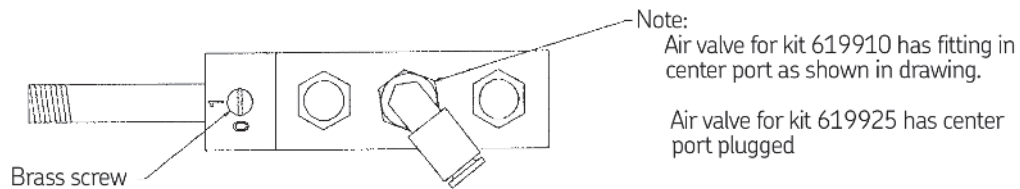

Fig. 1
1. During the charge cycle, turn the brass screw located on air valve (see Fig. 1 on page 64), to the right (screw slot will be in horizontal position). If exhaust air burst does not occur, replace valve. If exhaust does occur, turn screw back to original position (screw slot must be in vertical position for normal operation) and proceed to step 2.
2. Remove three (3) air lines (Kit #619910) or two (2) air lines (Kit #619925) connected to fittings in air valve (Ref. Fig 1 on page 64).
4. Remove three (3) screws holding valve to manifold. Remove valve and discard.
- a. Install three (3) push connect fittings to open ports of new air valve.
- b. Secure air valve to manifold with three (3) screws. Torque screws to 15-20 in. lbs.